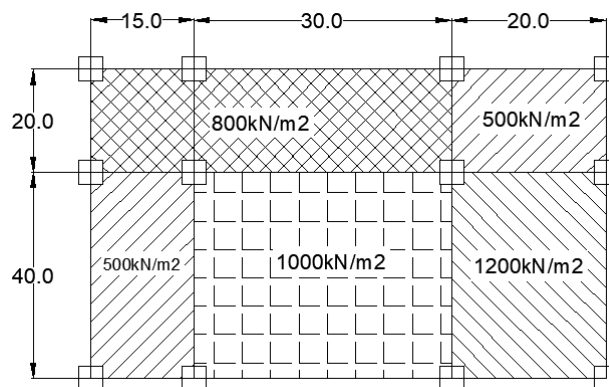

Fig 1
2. Determine the center of mass and center of stiffness for the plan shown in Fig 1. All the columns have same stiffness. (C.O.No.2) [Comprehension]